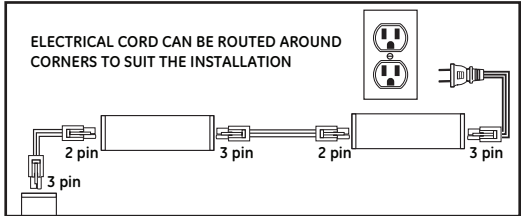

Figure 5
- Once installed, attach the linking cord between the last light bar (previously installed) and the new one. See **Figure 5** to see how the 2-pin and 3-pin plugs are intended to be used.